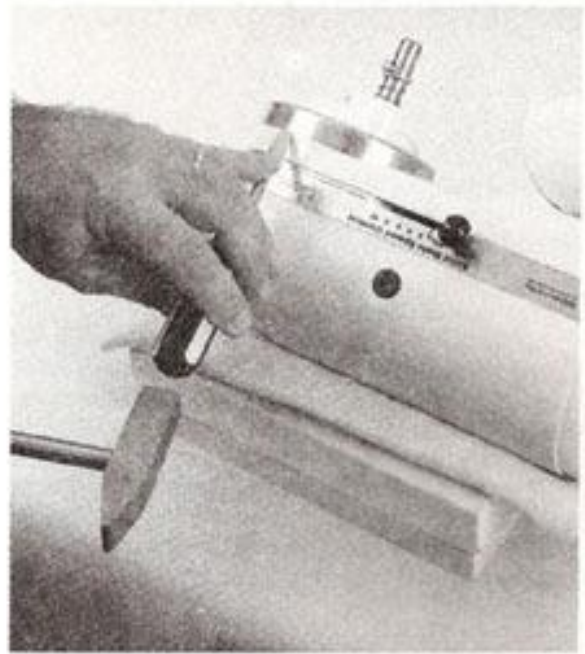

Fig. 2
- C. To save the paint, lay the gear case and motor housing in a padded cradle or on a cloth pad. To remove the planetary, first remove the drip cup. The drip cup fits the gear case bottom cover tightly and must be started off the cover by tapping it (Fig. 2). Use a screwdriver on the upper edge of drip cup and tap screwdriver gently to remove the drip cup.